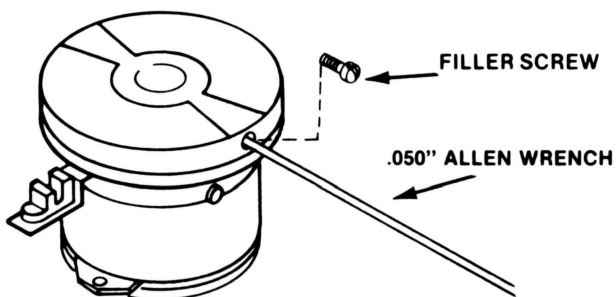

FIGURE 10. DAMPER REMOVAL
- A. Remove the filler screw from the side of damper (refer to Figure 10).